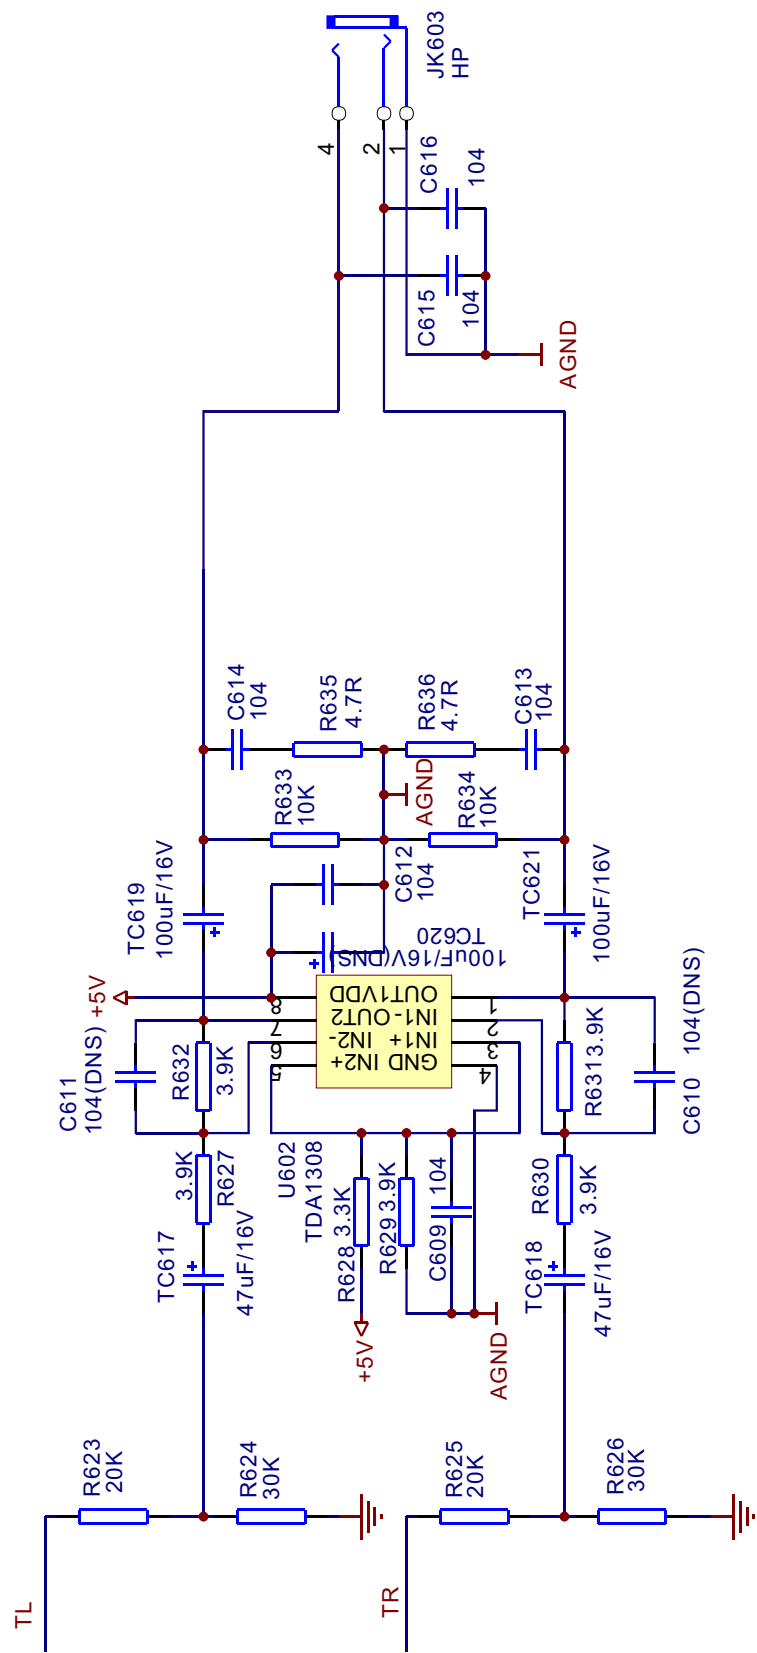

Figure 3.2.14.1 Headphone signal transmission circuit diagram
1. The circuit schematic diagram is shown as the following figure 3.2.14.1: